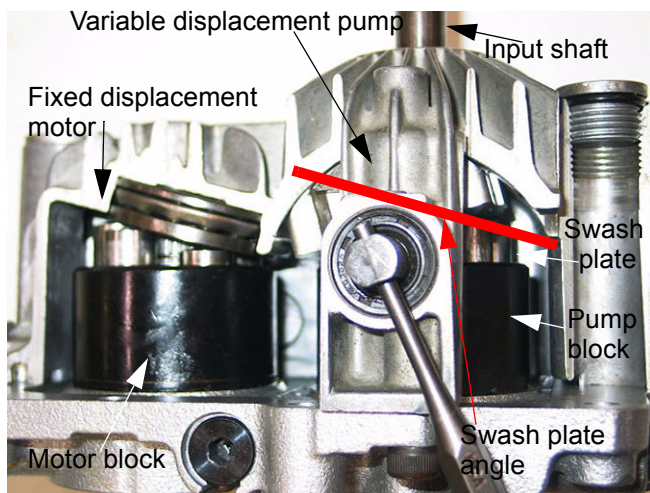

Figure 2.5
- 2.5. : tilting the swash plate in one way causes the variable displacement pump to drive fluid through the fixed displacement pump in one direction. See Figure 2.5.
NOTE: In figure 2.5, the pistons in the variable displacement pump are alternately pressed into the bores, and then released from bores of the rotating pump block by the tilt of the swash plate.
- On the right side of the pump block in figure 2.5, the pistons are down.